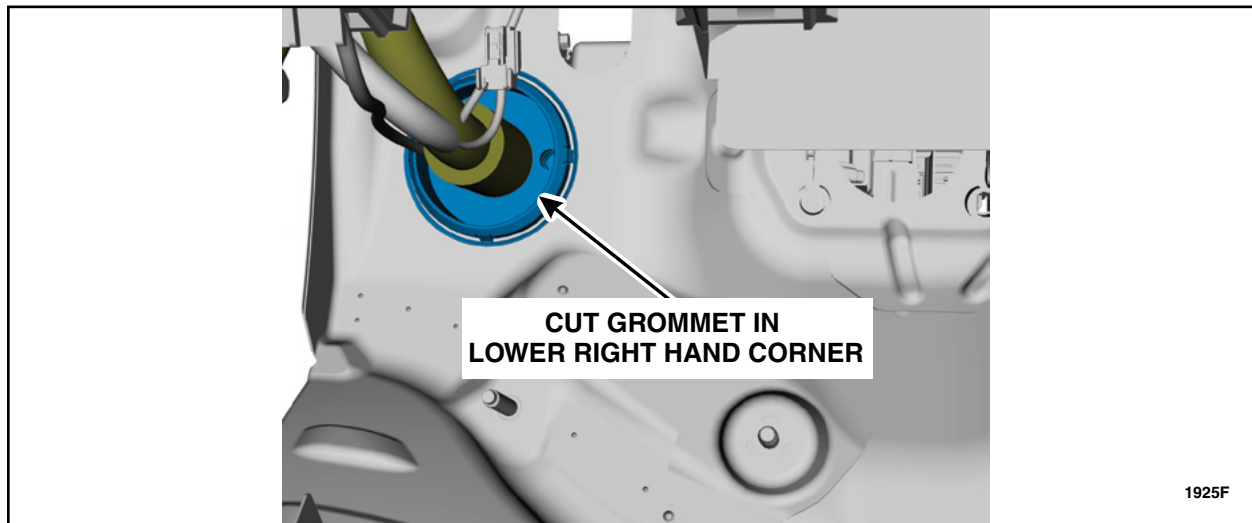

FIGURE 6
8. Cut the interior rubber grommet to allow access for the interior trailer brake wiring harness and wire hanger tool. See Figure 6.